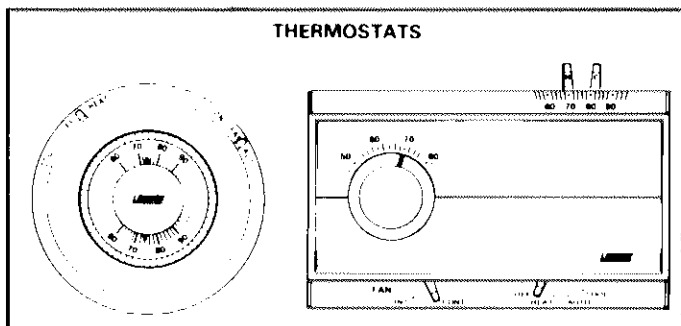

FIGURE 3
- 2 - Set thermostat to its lowest setting. See figure 3.
- 1 - Set thermostat to its lowest setting. See figure 3.